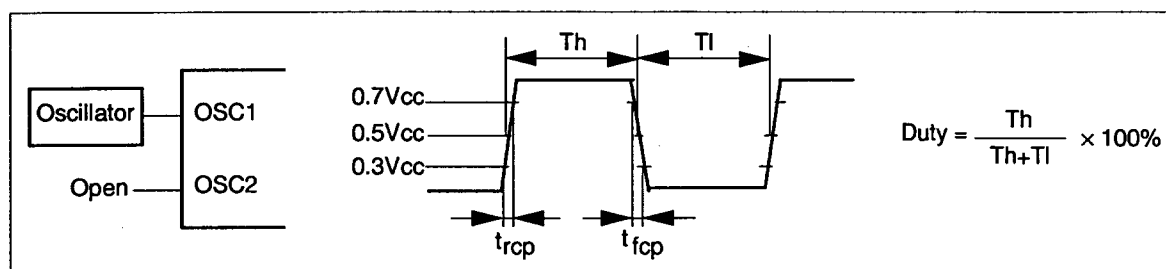

Figure 67 External Clock Supply
13. Applies to the external clock input (figure 67).